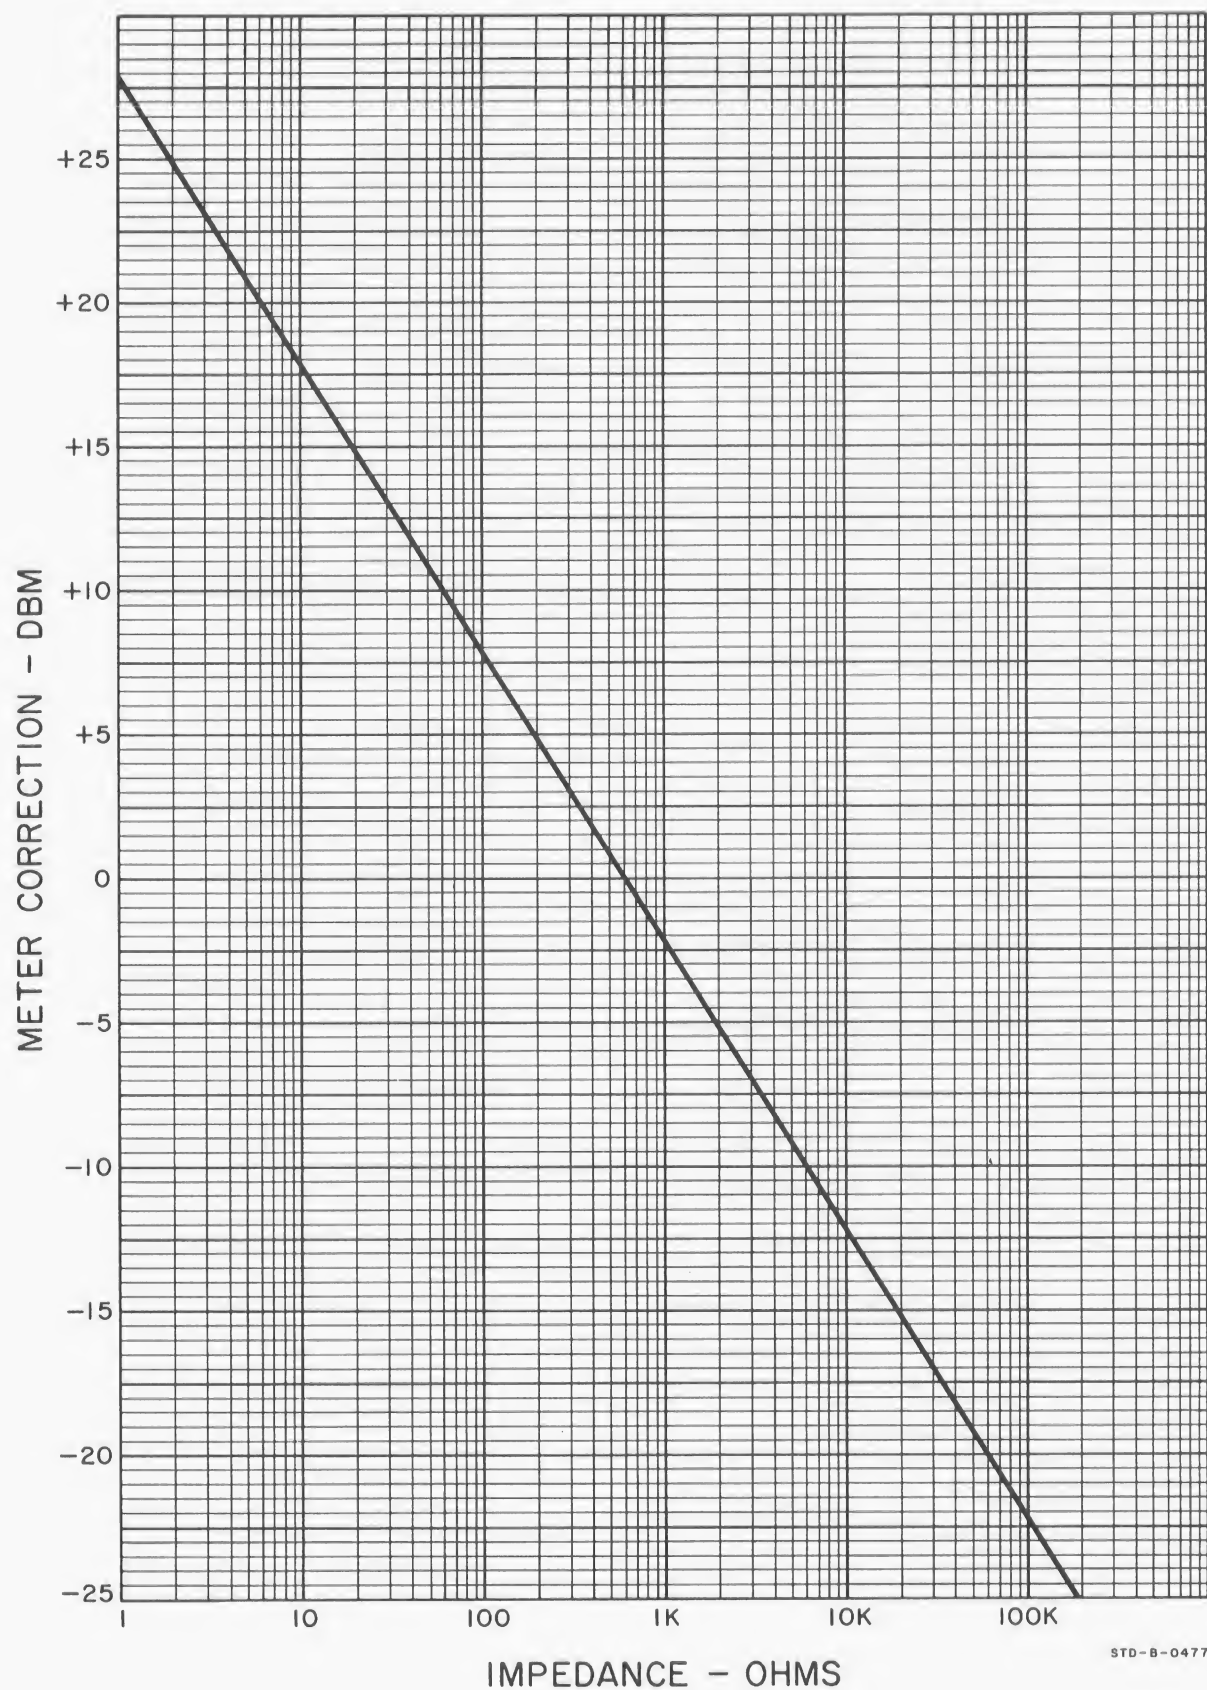

Figure 3-2. Impedance Correction Graph
- c. A reading in dB may be converted to dBm by using the Impedance Correction Graph (Figure 3-2). For example: to convert a -30 dB reading across 200 ohms to dBm, locate the 200 $\Omega$  impedance on the bottom of the graph. Follow the impedance line to the heavy black line, and read the meter correction at that point. The correction for 200 ohms is +5 dBm; thus the corrected reading is -25 dBm.